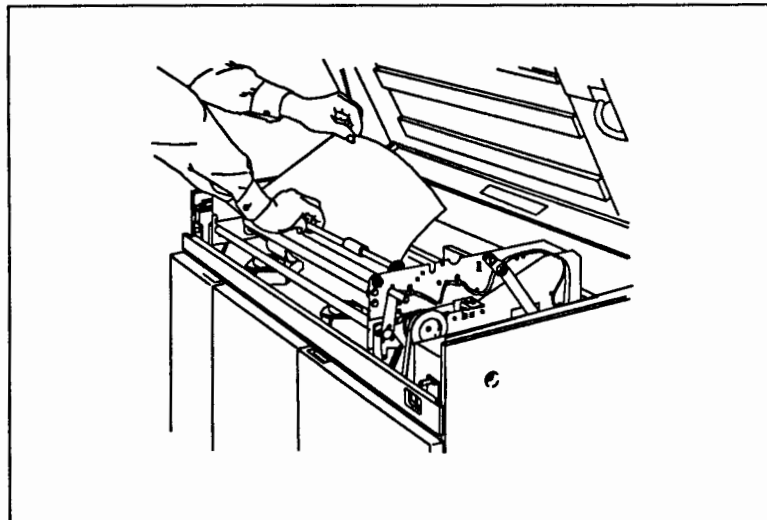

Figure 2-23. Routing the Media
- m. Route the media between the the pinch roller and the media feed roller assembly. Swing the feed roller assembly back against the media. See Figure 2-23.